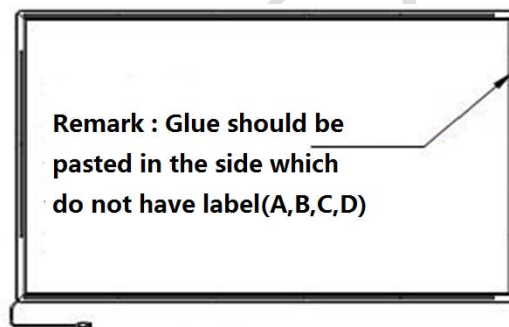

Fig. 11 Schematic Diagram of Paste the Double-Sided Glue
- 5) Paste the double-sided glue along the touch frame, the glue should be in the center of the bezel, as shown in Fig. 11.